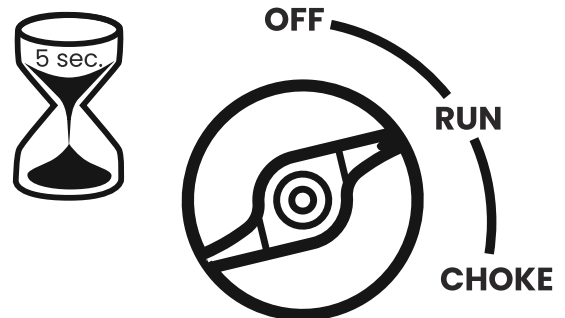

Figure 8: Turn Engine/Fuel Switch to RUN
5. As the engine starts and stabilizes, turn the choke switch back in to the RUN position (see Figure 8).